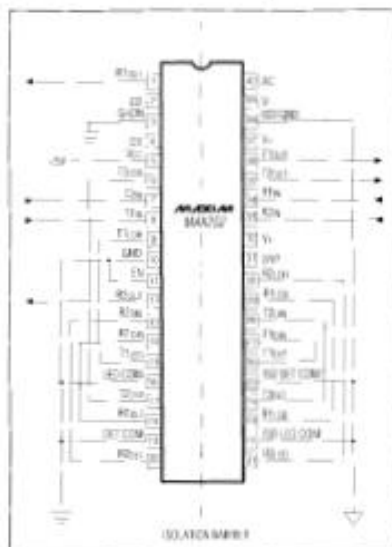

Figure 1. Typical Interconnection
Figure 1 shows the typical interconnection for a complete 9600 bit/sec. transceiver. Important layout considerations include:
* For maximum isolation, the isolation line through the center of Figure 1 should not be breached; connections from each side should be kept separate.